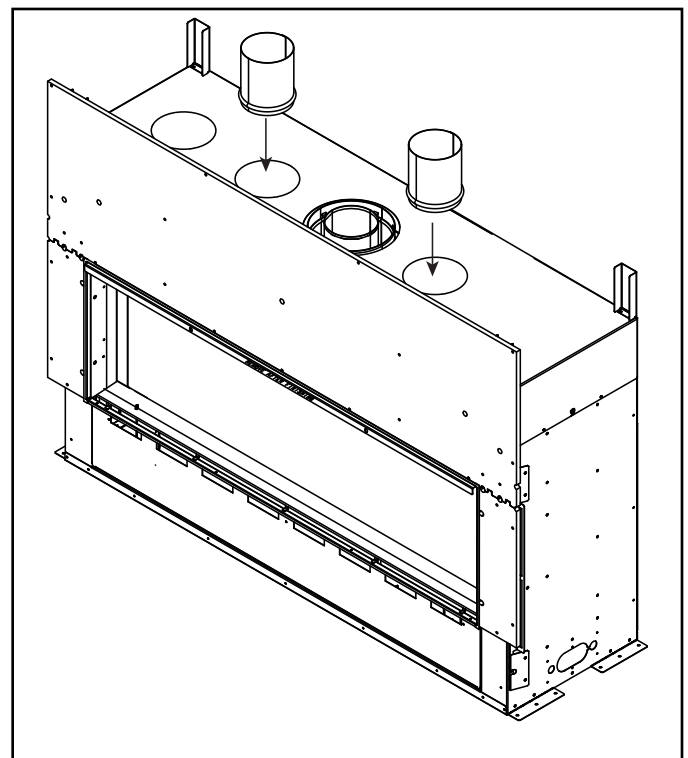

Figure 5.3 Install Inner Flues
3. Set a collar in each of the holes where the knockouts were removed. See Figure 5.3.